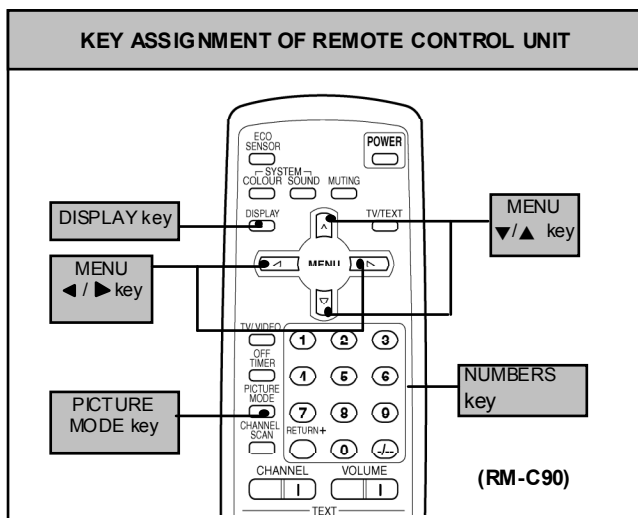

Fig.1
(4) Check and set SYSTEM CONSTANT SET
- The SERVICE MENU screen of Fig. 1 will be displayed.